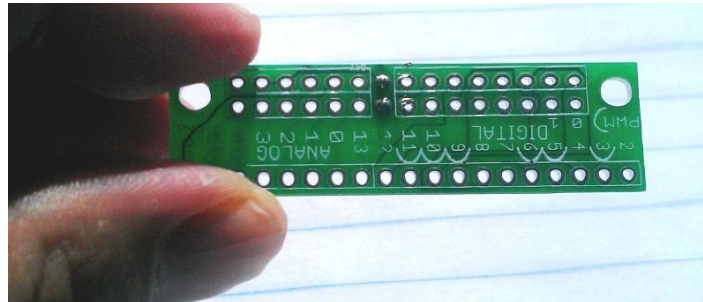

Fig. 4-1. Solder the 5V/GND pins first, facing down, with the side with text as up.
- 1) Solder the 5V/GND pins first, facing down, see fig. 4.1